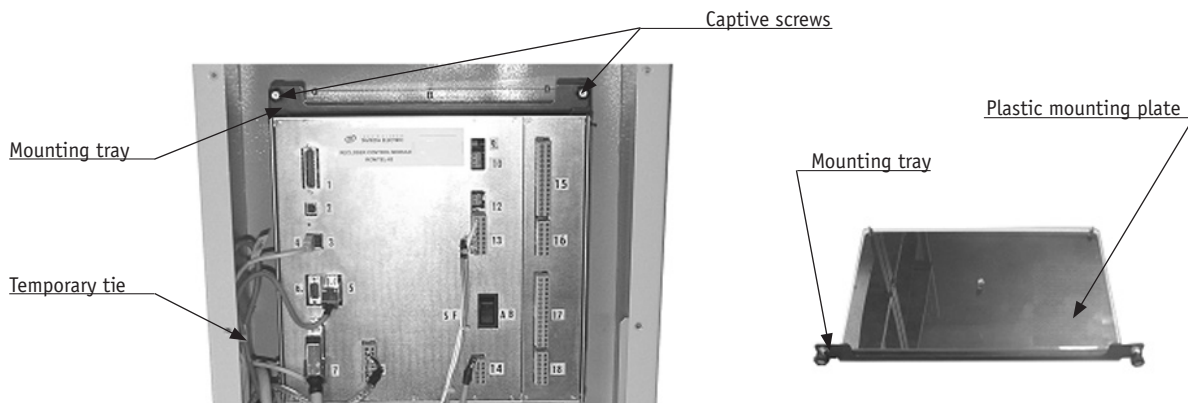

Figure 74
- Unscrew the two M5 captive screws and remove the RTU mounting tray (Fig. 74).
- Remove the temporary cable tie fixing the WA:RCM-RTU and connect the plug "23" to RTU (Fig. 74)